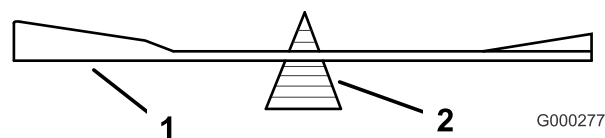
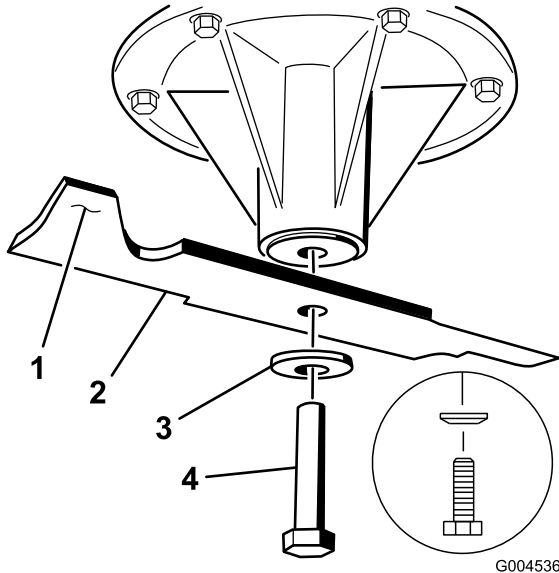

Figure 87
Figure 88
2. Remove the blade bolt, curved washer, and blade from the spindle shaft (Figure 88).
2. Check the balance of the blade by putting it on a blade balancer (Figure 87). If the blade stays in a horizontal position, the blade is balanced and you can use it. If the blade is not balanced, file some metal off the end of the sail area only (Figure 88). Repeat this procedure until the blade is balanced.
1. Install the blade onto the spindle shaft (Figure 88).
2. Install the curved washer and blade bolt. The curved washer cone must be installed toward the bolt head (Figure 88).